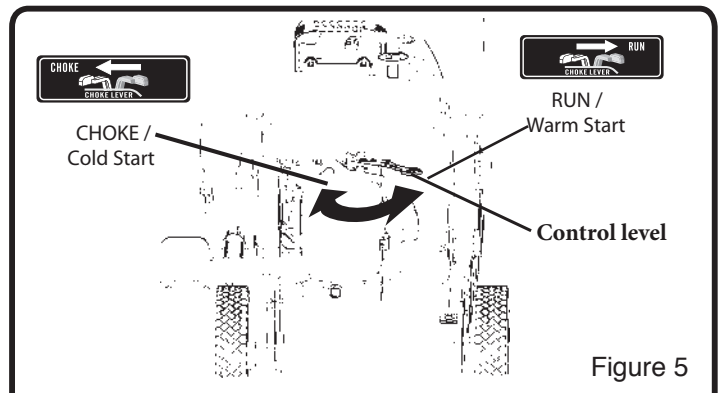

Figure 5
3. Rotate Choke to the Choke Position. (See Figure 5) **NOTE:** Not required when re-starting a warm engine.